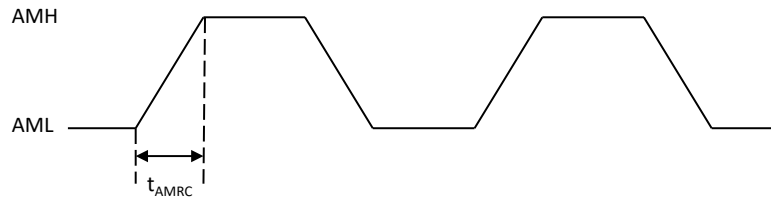

Figure 6.17 Soft-ASK Modulation Wave
Soft-ASK function is implemented to reduce the ASK modulation bandwidth. In Soft-ASK, modulation is applied in ramp shape shown in **Figure 6.17**.
t_{AMRC} shown in **Figure 6.17** is calculated by formula (10). The AMRC of formula (10) determines the inclination of ramp shape and is assigned to SFR address 0x0F.